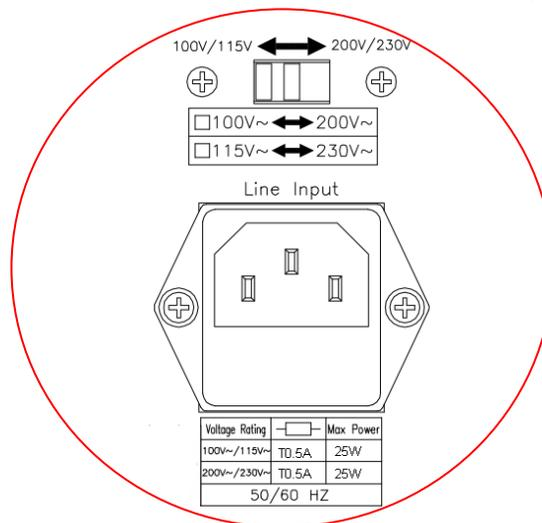

Fig 2-1 SET OF SWITCH
2.1.2 Refer the drawing on the rear panel in Fig 2-1, set the switches to the Proper voltage as described in the following: